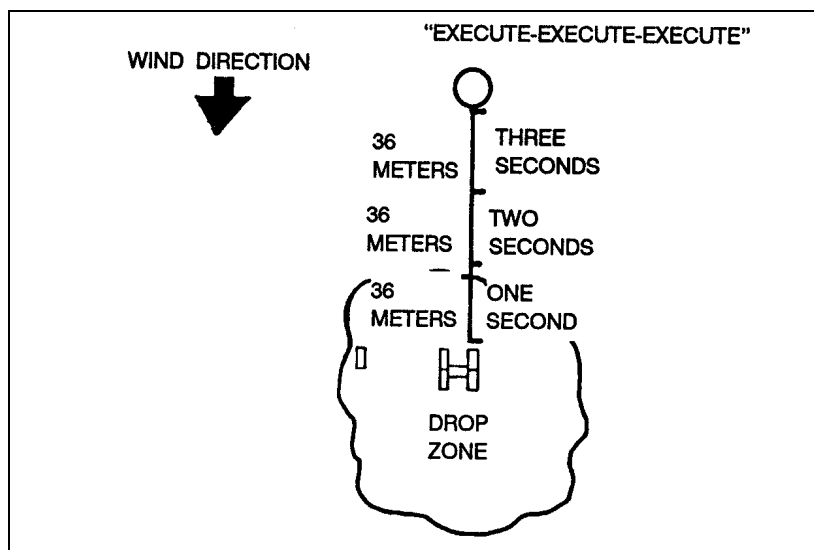

Figure 6-12. Example Army VIRS offset.
f. On an Army VIRS DZ, where trees obscure the RP, you may use an offset (Figure 6-12, page 6-26).
- (1) An UH-60A is traveling at a speed of 70 knots (about 36 MPS).
- (2) RP location is 108 meters into the wood line.
(3) As the aircraft passes over the code letter, the GTA operator begins counting, “ONE THOUSAND, TWO THOUSAND, THREE THOUSAND...”
(4) At the end of three seconds, the GTA operator transmits, “EXECUTE, EXECUTE, EXECUTE.”